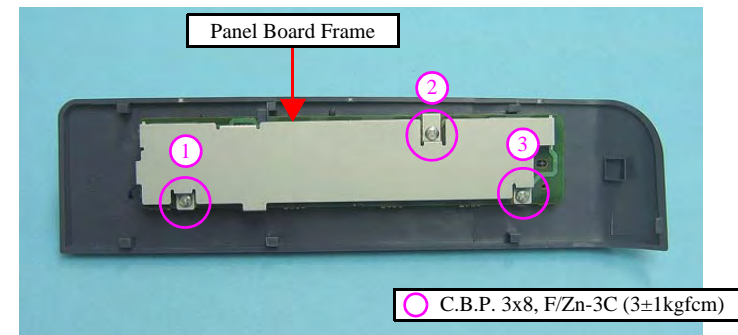

Figure 4-118. Removing the Panel Board Frame
- Tighten the screws in the order given in Figure 4-118.